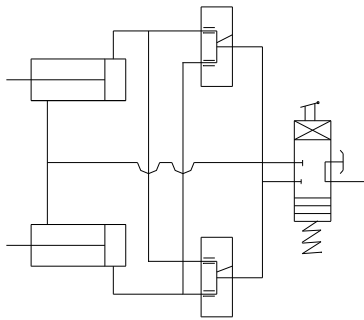

Figure 3, Example of large flow parallel two cylinder synchronous circuit
4. If the system flow is large, you can use parallel connection circuit, referring to figure 3. It can improve the Synchronous precision by mixing the positive and negative error of the valve.